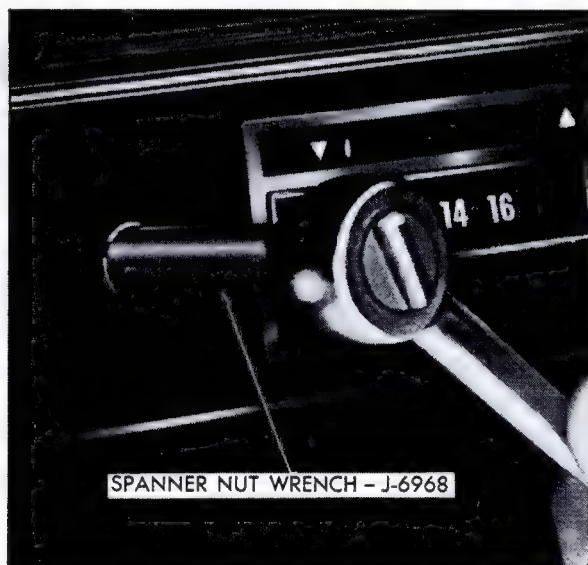

Fig. 12-44 Removing Radio Control Knob Nut
4. Using Spanner Nut Wrench, J-6968, remove spanner nuts securing control shafts to instrument panel, Fig. 12-44.
2. Support receiver unit and install spanner nuts snugly on control shafts. Tighten spanner nuts using Spanner Nut Wrench, J-6968, Fig. 12-44.